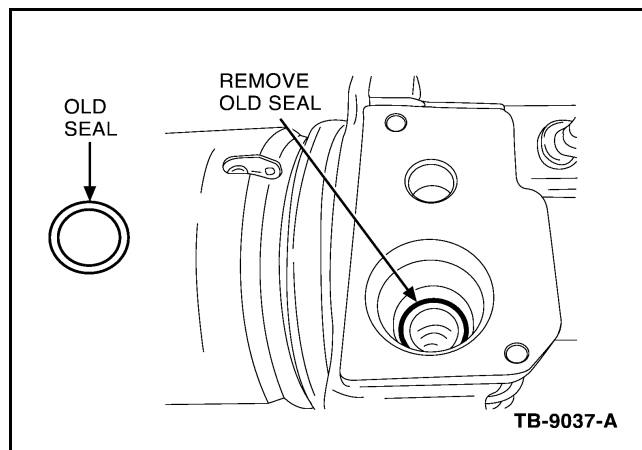

Figure 1 - Article 08-4-11
4. Remove the existing O-ring from the coupling body. (Figure 1)